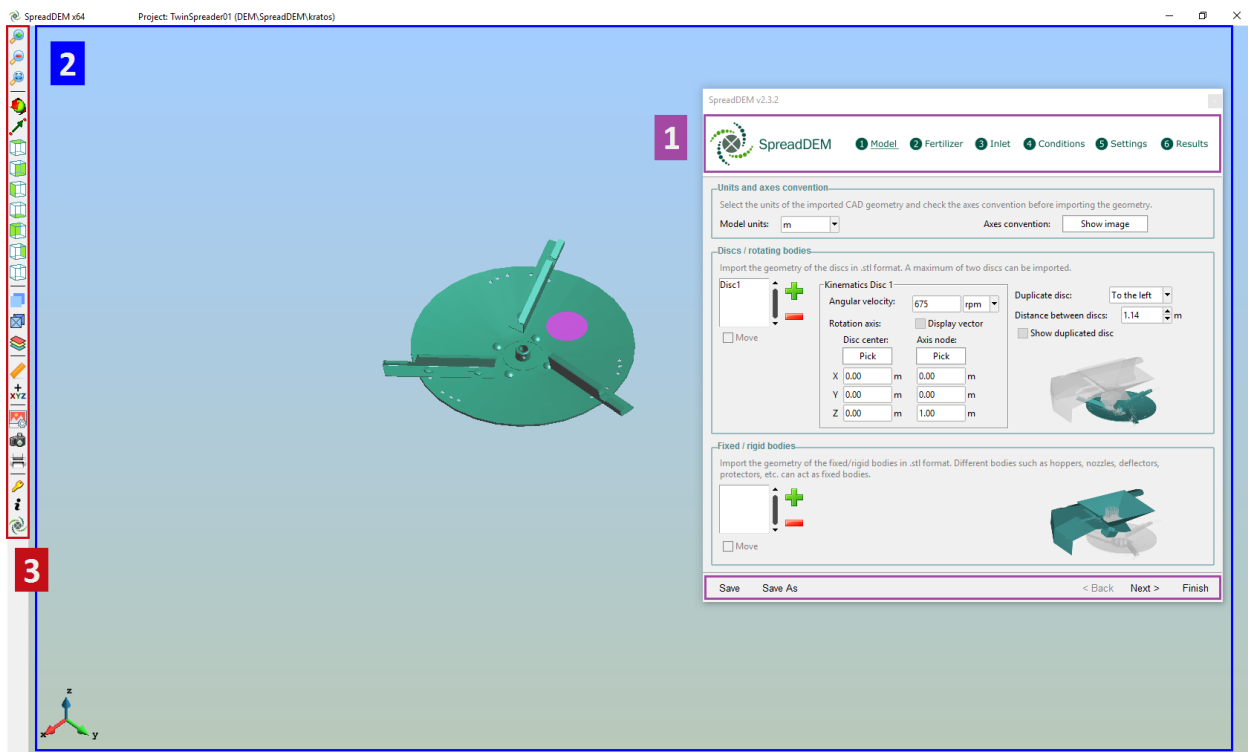

Figure 48. Different areas of the SpreadDEM user interface.
The different visualization and navigation options can be divided in three main areas, as shown in Figure 48: the navigation menu (1), the working area (2) and the lateral menu (3).